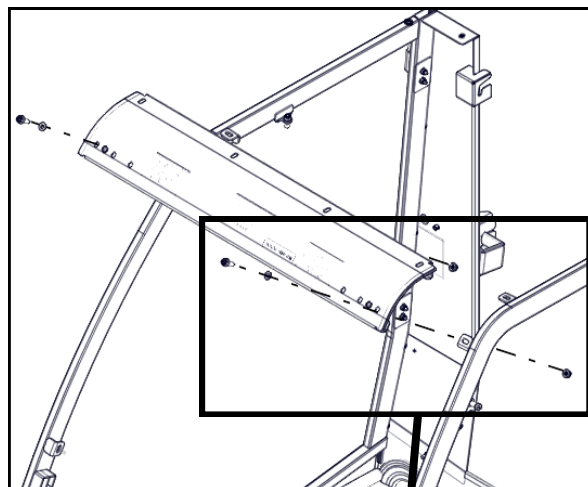

Fig. 11.1 (Windshield Support Installation)
11.1 Install windshield support. See figures 11.1 & 11.2.